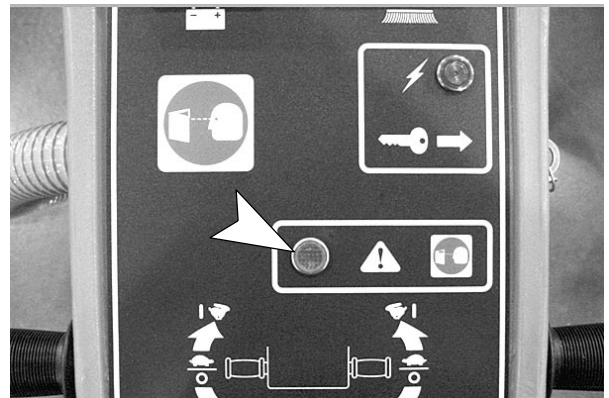

FIG. 13
1. Your machine has an amber carbon brush indicator lamp which will light when the carbon brushes in the pad drive motor need to be replaced (Figure 13). See **QUARTERLY MAINTENANCE** section.